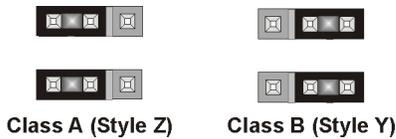

Figure 4: Speaker Circuit Supervision Selections
2. Set the Speaker Circuit Supervision Selector to the appropriate position for Class B or Class A wiring. See Figure 4.